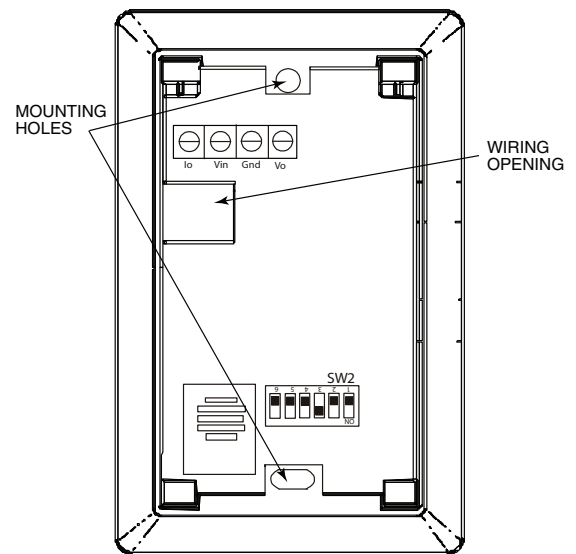

Fig. 70 — Space Relative Humidity Sensor Installation
If the sensor is installed directly on a wall service, install the humidity sensor using 2 screws and 2 hollow wall anchors (field supplied). Do not over tighten screws. See Fig. 70.
1. At the sensor, remove 4 inches of the jacket from the cable. Strip 1/4 inch of insulation from each conductor. Route the cable through the wire clearance opening in the center of the sensor. See Fig. 70.